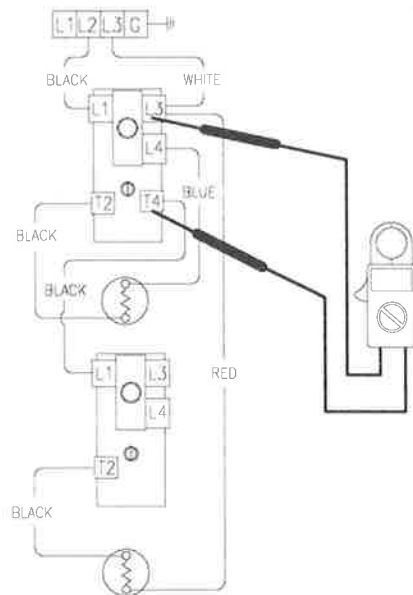

Figure 31
6. Check voltage across terminals L3 & T4 of upper thermostat (see Figure 31).